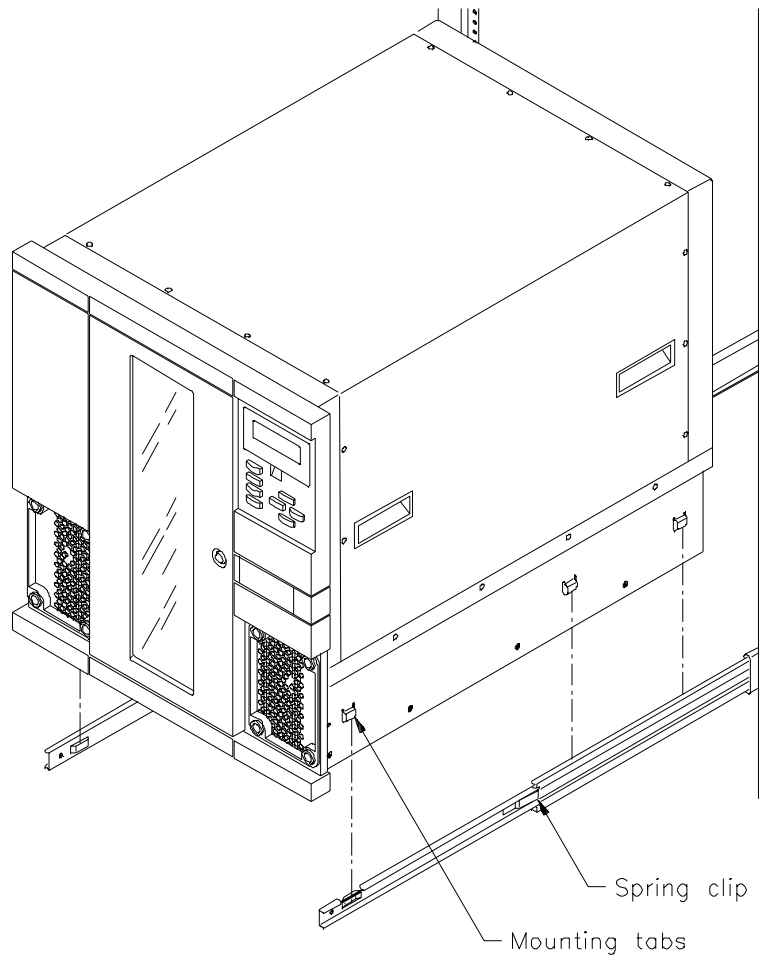

Figure 6-5 Lifting the library from the rack
6. Making sure the library is supported so that the rack will not tip, slide the library forward until the rails stop at the spring clips (see Figure 6-5).